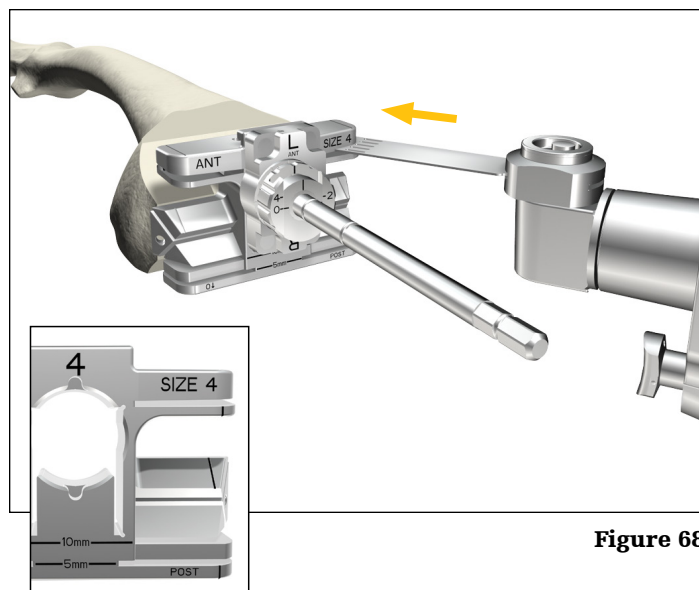

Figure 68
► **Note:** Vertical markings on either side of the All-in-One Resection Guides correspond to the M/L width of the femoral components (**Figure 68**).
Complete the four femoral resections as well as any posterior augment resections using a 15mm oscillation saw blade (**Figure 68**).